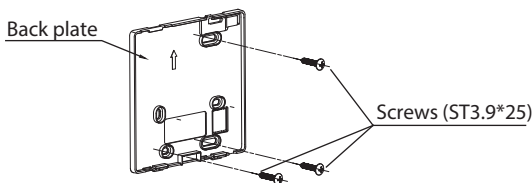

Fig 3-3
- For wakk mounting, fasten the back plate on the wall with the 3 screws (ST3.9*25) and anchors. (Fig.3-3)